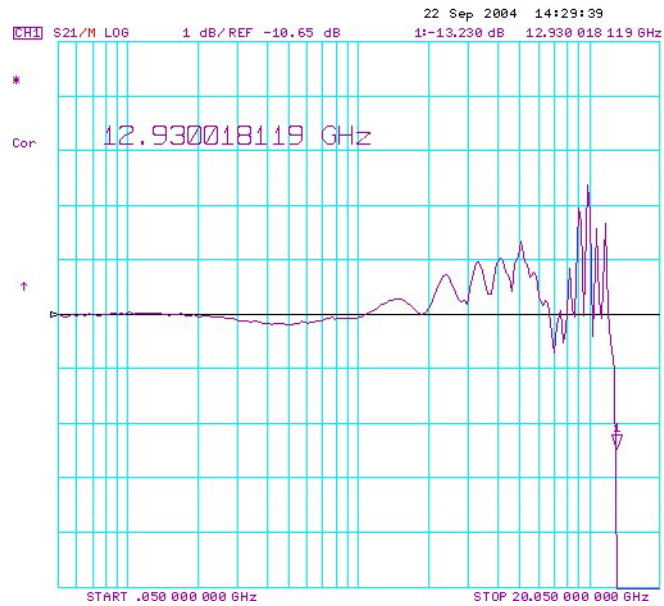

Figure 220 Typical Waveform for an 1134B Probe
- 44 Then select the **Data/Memory** screen key. You may need to adjust the **Reference Value**, located under the **Scale Ref** key, slightly to position the waveform at center screen at 100 MHz. The waveform should be similar to that shown in **Figure 220**.